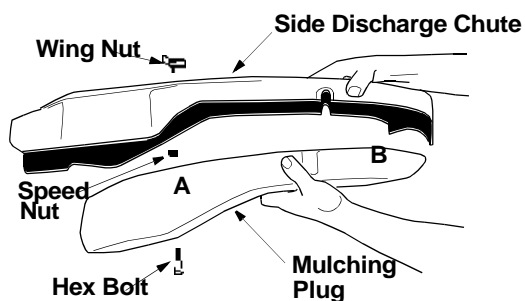

Figure 5
- Put two hex bolts through the mulching plug at the respective openings. See Figure 5 .
- Place wing nut on each of the hex bolts and thread a few turns. See Figure 5 . Check that the mulch plug is aligned correctly within the discharge chute.